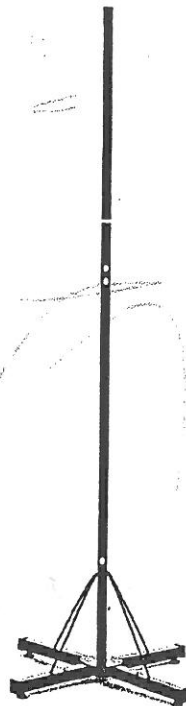

Figure 2
- 6) Attach Top Extension Tube (part F) to the top of the Base Setup. (See Figure 2)
- 13) Use adjustable glides (4) located at the bottom of the Base Setup to level the rack on uneven floors.